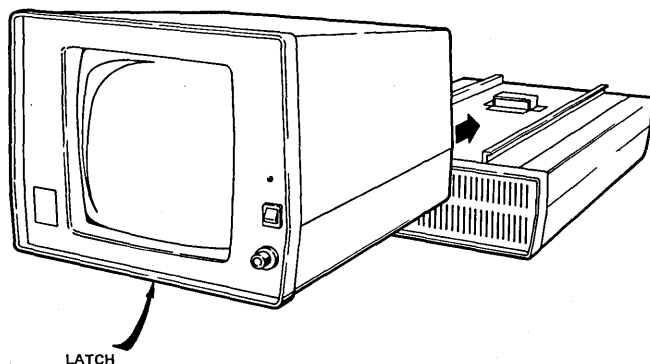

Figure B-3. Display Unit Mounting
1. To mount display unit on controller unit, place guide rails of display unit on guide rails of controller unit (figure B-3). Slide display unit back. Continue sliding display unit back as far as possible until automatic latch clicks.
5. To take display unit off controller unit, disengage latch under front of display unit, and slide display unit forward and off guide rails (refer to figure B-3).